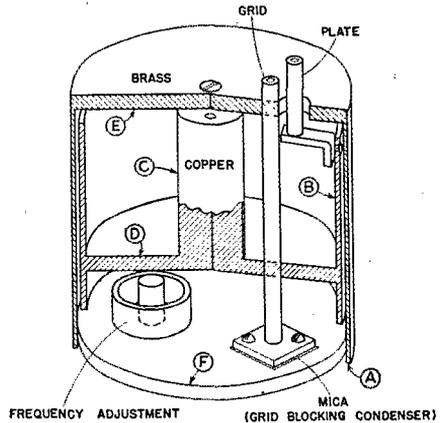

Fig. 1 — Sectional view of the tank circuit.
The basic type of tank circuit used in the oscillators to be described here is shown in section in Fig. 1. This tank circuit is cylindrically symmetrical about the center-line axis and consists
- L1C — Tank circuit shown in Fig. 1.
- L2 — Grid rod shown in Fig. 1.